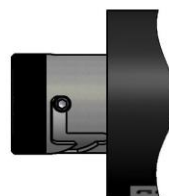

Figure. 9
4. Press the safety device and turn it clockwise to leave it in standstill or blocked position (see **Figure. 9**, page 12).
5. Press the safety device and turn it clockwise to leave it in blocked position (see **Figure. 9**, page 12).